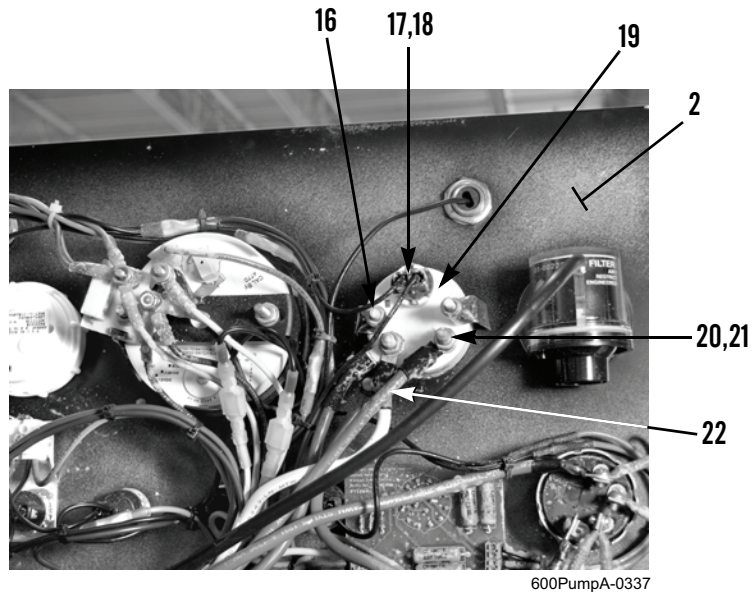

Figure 8. Ammeter.
1. Disconnect light plug (Figure 8, Item 7) from ammeter (Figure 8, Item 19). If required, remove bulb (Figure 8, Item 18) from light plug.
2. Remove two nuts (Figure 8, Item 20) and lockwashers (Figure 8, Item 21) from ammeter (Figure 8, Item 19). Discard lockwashers.
3. Disconnect four wires (Figure 8, Item 22) from ammeter (Figure 8, Item 19).
4. Remove two nuts (Figure 8, Item 16) and ammeter (Figure 8, Item 19) from panel (Figure 8, Item 2).
1. Install ammeter and rubber seal mounting (Figure 8, Item 19) and two nuts (Figure 8, Item 16) on panel (Figure 8, Item 2).
2. Connect four wires (Figure 8, Item 22) to ammeter (Figure 8, Item 19).
3. Install two new lockwashers (Figure 8, Item 21) and nuts (Figure 8, Item 20) on ammeter (Figure 8, Item 19).
4. If removed, install bulb (Figure 8, Item 18) in light plug (Figure 8, Item 17) and install light plug to ammeter (Figure 8, Item 19).